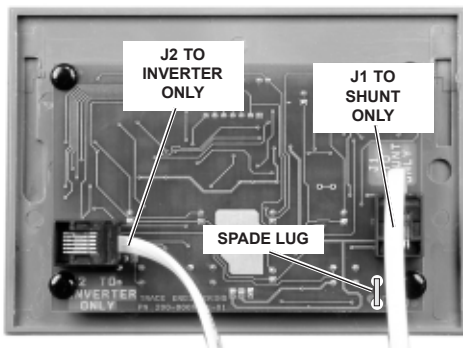

Figure 2-5
- Connect the *communications* cable (from the shunt) to the "J1 TO SHUNT ONLY" jack (Figure 2-5).